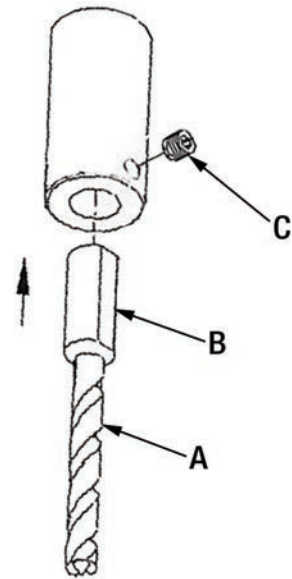

FIGURE 9
1. Boring bits (A) Fig.9 are especially designed for Line Boring Machine spindles, they have a flat face (B). Insert and position the flat face of each boring bit into the corresponding spindle (red or black) and align it with the spindle set screw (C).
4. If a boring bit needs alignment, hold the feed handle down. Loosen the set screw (C) Fig.9 of a boring bit that is NOT touching the workpiece. Let the boring bit drop down and come into contact with the workpiece. Secure the bit by tightening the set screw.